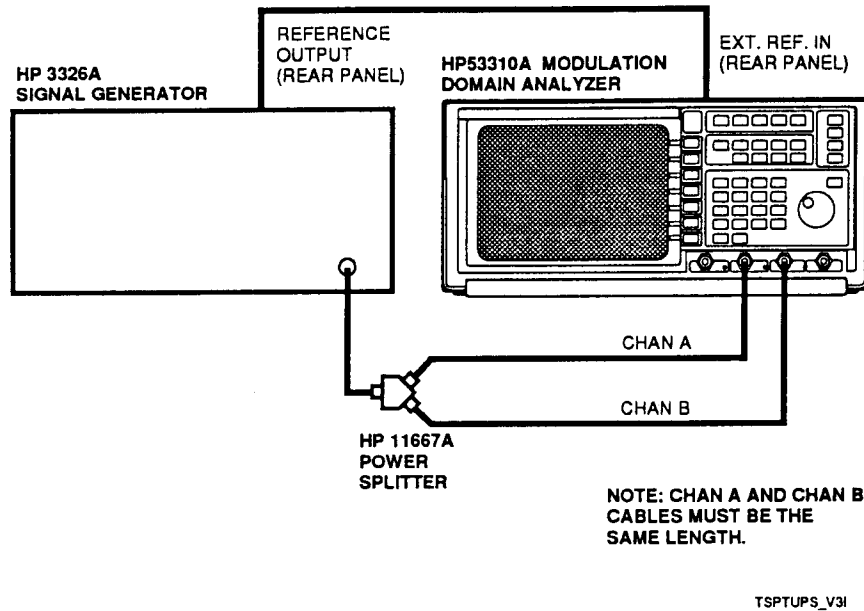

Figure 2-7. Test Setup for Performance Tests Using Power Splitter
- 6 Connect source output to Channels A and B of the HP 53310A as shown in *Figure 2-7*.
In Figure 2-7, the channels A and B cables from the power splitter **MUST** be the same length.